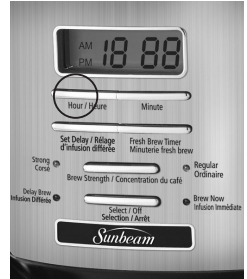

FIGURE 1
2. Press and hold the HOUR and MINUTE buttons until you reach the current time. The AM or PM indicator is at the left of the display (Figures 1 and 2).